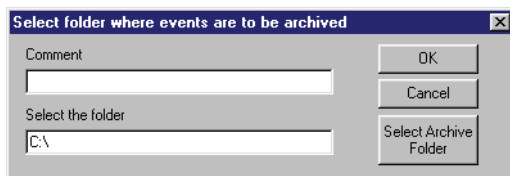

Figure 5-16: Select Folder For Archive File Window
4. Click on the  button. The Select Folder for Archive File window will appear (see Figure 5-16).